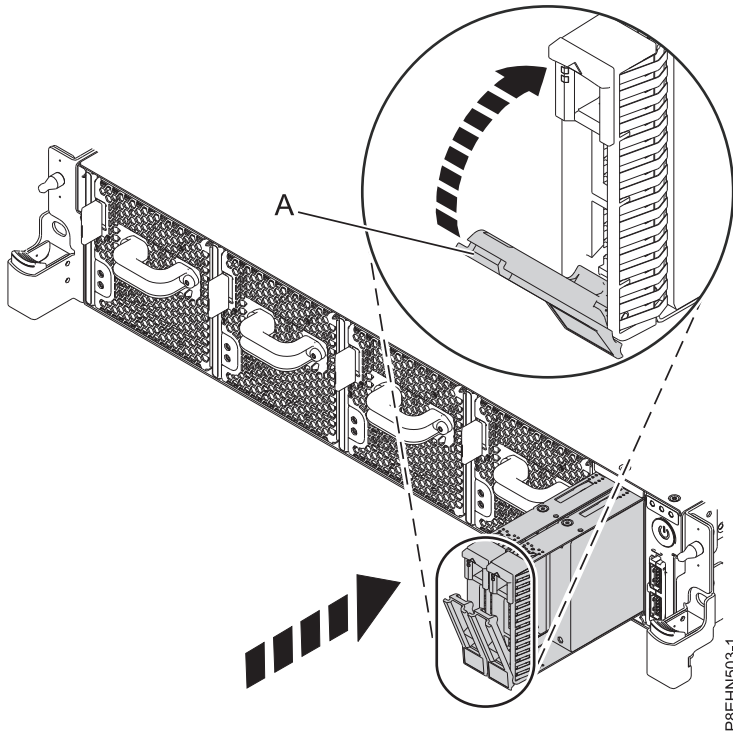

Figure 2. Locking the drive bay handle
7. Lock the drive bay handle (A) by pushing in the handle release. See Figure 2 on page 8.